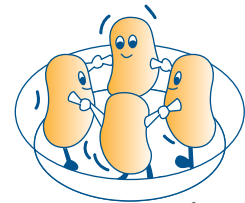

fig. 10
- 5) If you are preparing a large number of portions of the same food item (e.g., boiled potatoes), **place** those portions in a Pyrex dish so they will cook evenly (see Fig. 10):